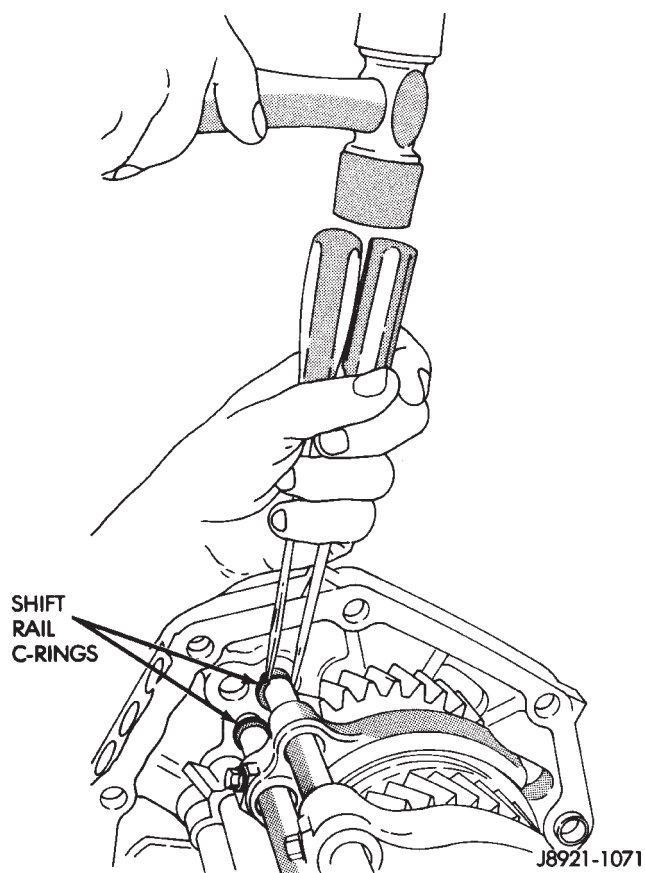

Fig. 42 Removing Shift Rail C-Rings
- (2) Remove 1-2 and 3-4 shift rail C-rings with two screwdrivers of equal size and length (Fig. 42).